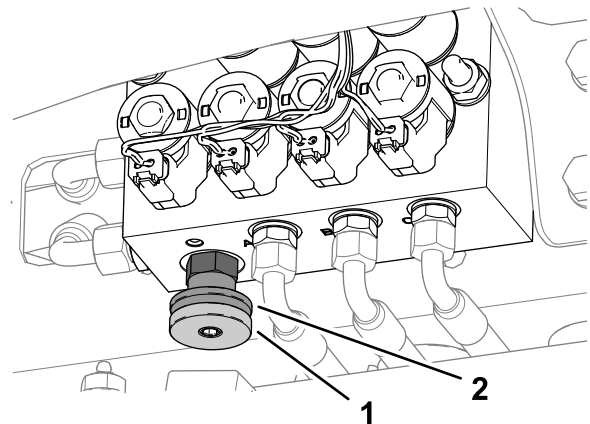

Figure 40
2. At the left side of the machine below the storage compartment, loosen the lock wheel of the weight transfer manifold 1/2 turn counterclockwise while holding the hand wheel steady (Figure 40).
3. Rotate the weight transfer hand wheel (Figure 40) as follows:
4. Tighten the lock wheel (Figure 40).